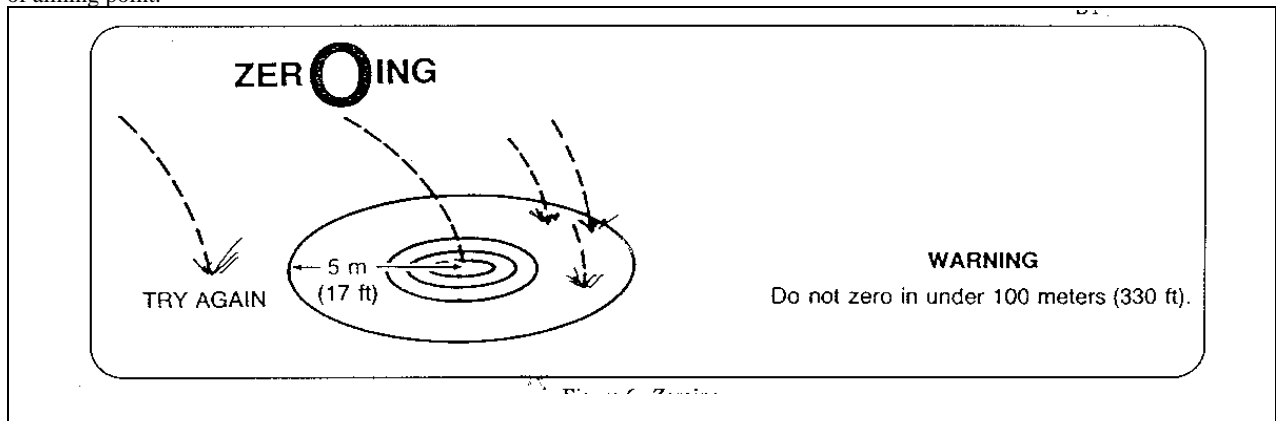

Figure 6. Zeroing
(3) **Zeroing.** Select a target at 200 meters (660 ft) and fire a round. If the round does not fall within 5 meters (17 ft) of target, zero the weapon as follows. (See Figure 6)